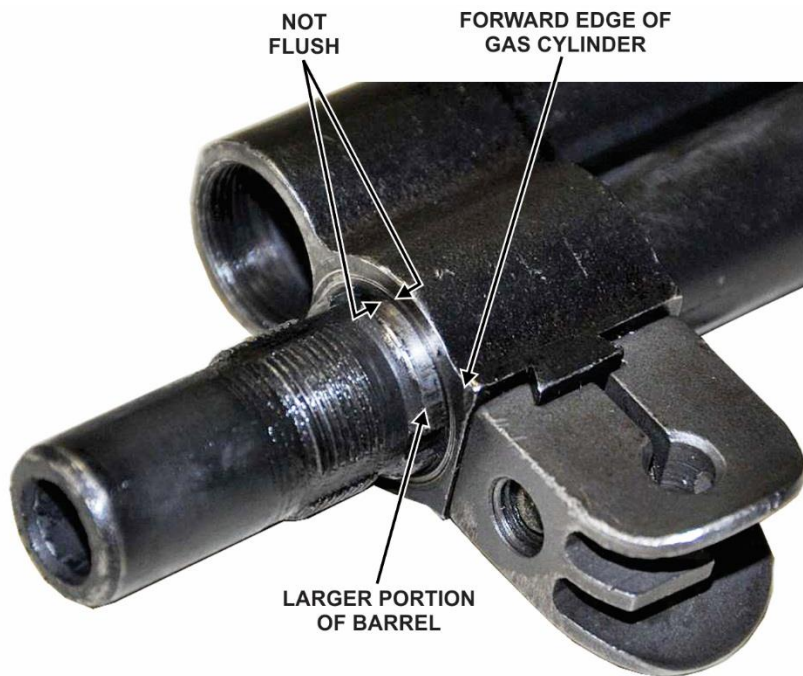

Figure 32. Gas cylinder positioned **INCORRECTLY**
- 3) Push the gas cylinder down until the forward edge is flush with the larger diameter portion of the barrel (figs 32 and 33).